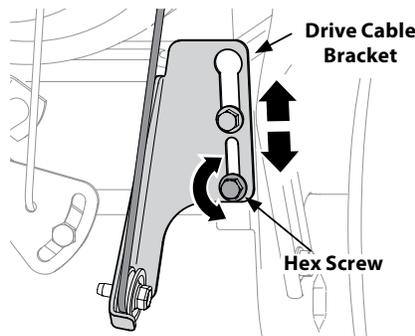

Figure 2-55
2. Loosen lower hex screw on drive cable bracket. See Figure 2-55.